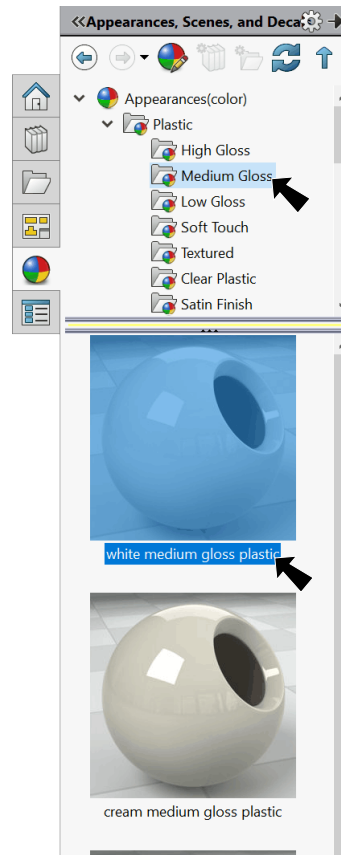

Fig. 21
Step 2. In the Appearances Task pane, expand **Plastic**, click **Medium Gloss** and in the lower pane select **white gloss plastic**, Fig. 21.